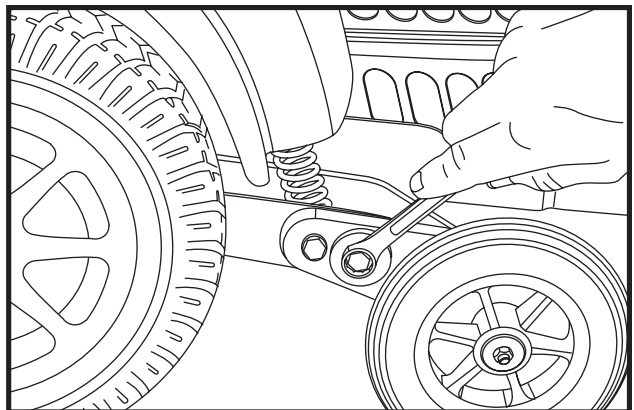

Figure 27. Anti-Tip Wheel Adjustment (Cam)
4. To adjust the anti-tip upward, turn the cam anticlockwise. To adjust the anti-tip downward, turn the cam clockwise. See figure 27.